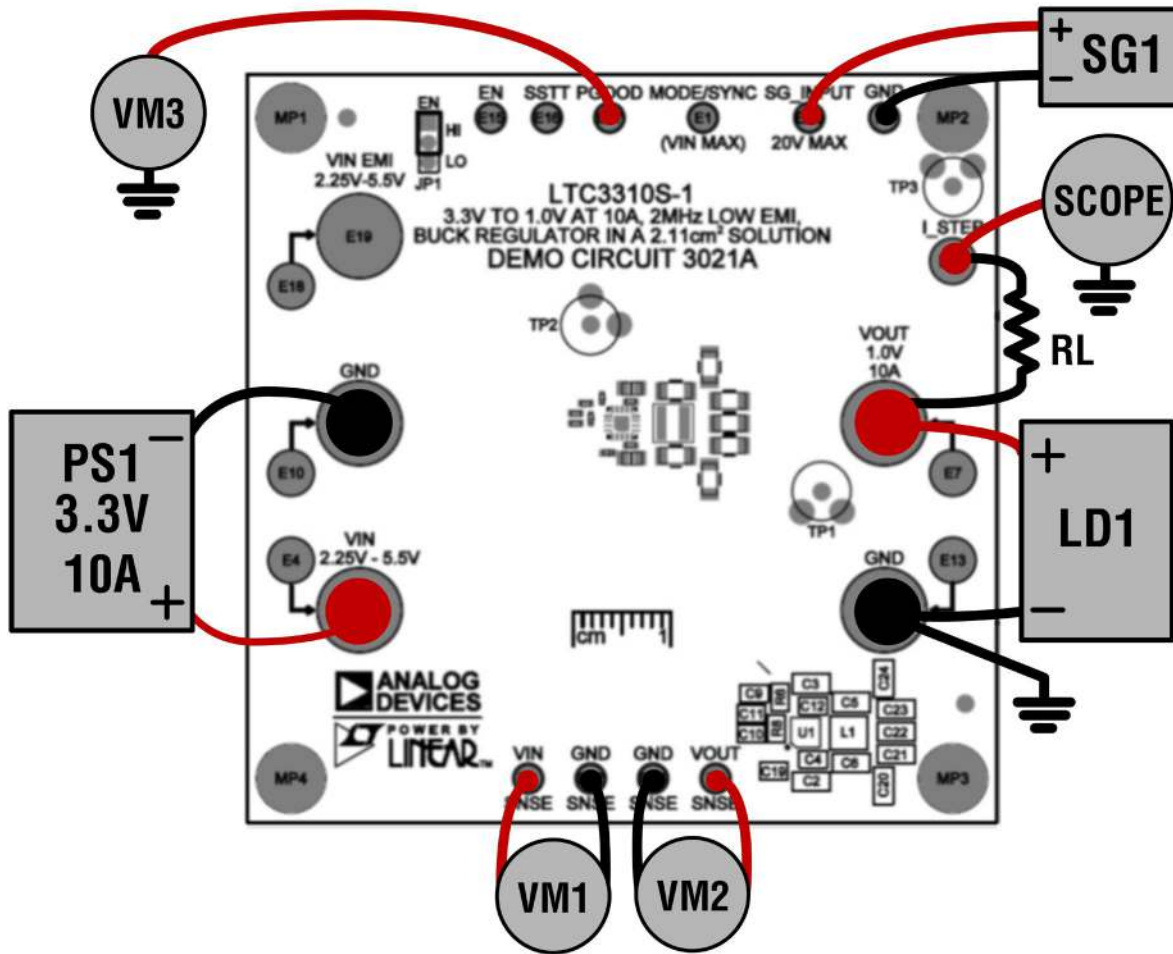
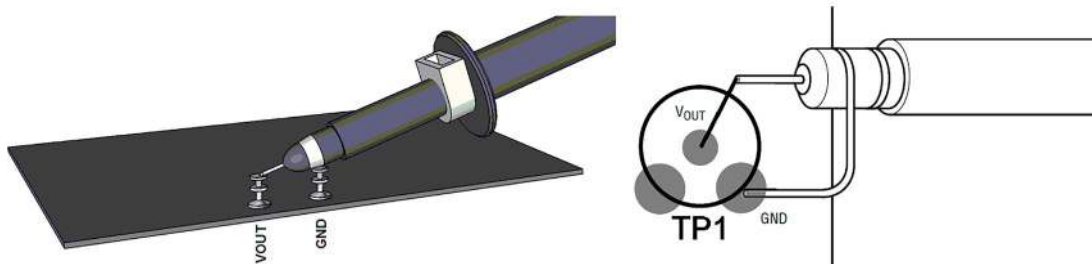

Figure 2. Test Setup for the DC3021A Demo Board
Figure 3. Technique for Measuring Output Ripple and Step Response
Demonstration circuit 3021A is easy to set up to evaluate the performance of the LTC3310S-1. Refer to Figure 2 for proper measurement equipment setup and follow the procedure below.
NOTE: For accurate V_{IN} , V_{OUT} and efficiency measurements, measure V_{IN} at the V_{IN} SNSE and GND SNSE turrets and V_{OUT} at the V_{OUT} SNSE and GND SNSE turrets as illustrated as VM1 and VM2 in Figure 2. When measuring the input or output voltage ripple, care must be taken to avoid a long ground lead on the oscilloscope probe. Measure the output voltage ripple by touching the probe tip directly across the output turrets or to TP1 as shown in Figure 3.
3. Slowly increase PS1 to 1.0V. If AM1 reads less than 20mA, increase PS1 to 3.3V. Verify that VM1 reads 3.3V and VM2 reads 1.2V. Record VM1, VM2, VM3 AM1 and AM2. Connect an oscilloscope voltage probe as shown in Figure 3. Set Channel to AC-coupled, voltage scale to 20mV and time base to 10 μ s. Record V_{OUT} ripple voltage. Verify that PGOOD voltage is above 3V. Calculate die temperature using Equation 1.
7. To test the transient response with a base load, add the desired resistor to produce a minimum load between V_{OUT} and I_STEP turrets (R_L shown on Figure 2). Note that the total load resistance will be R_L plus R10 (50m Ω). Adjust a signal generator with a 10ms period, 10% duty-cycle and an amplitude from 1V to 2V to start.